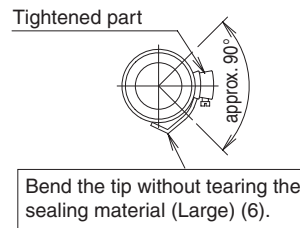

Fig. 15
- Wrap the vinyl tape around the end of the metal clamp (1) so that the sealing material (Large) (6) to be used at the next process may not be damaged with the clamp end or bend the tip of the metal clamp (1) inward as shown. (Refer to Fig. 15)